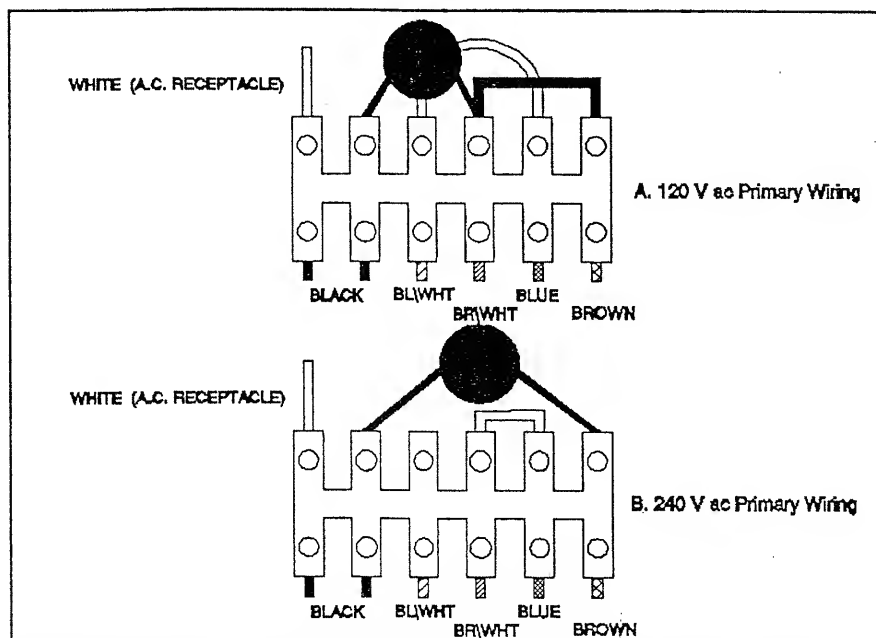

Figure 2 Primary Wiring Configuration for 120 V ac and 220/240 V ac
3. Locate terminal block TB1 located behind the AC main power switch. Reconnect the leads as shown in Figure 2.